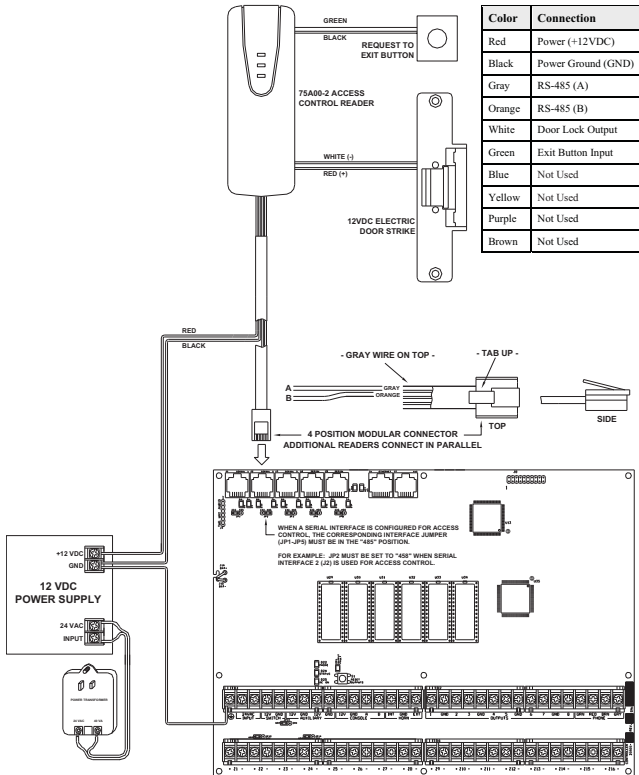
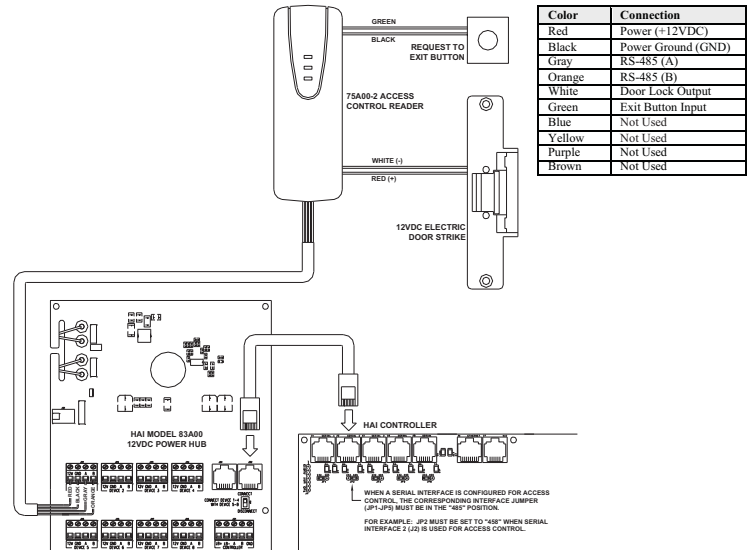

Figure 2 - Connections to the 75A00-2
Figure 3 - Connections to the 83A00 Power Hub
4. Make the connections to the 75A00-2 as shown in Figure 2 or Figure 3.